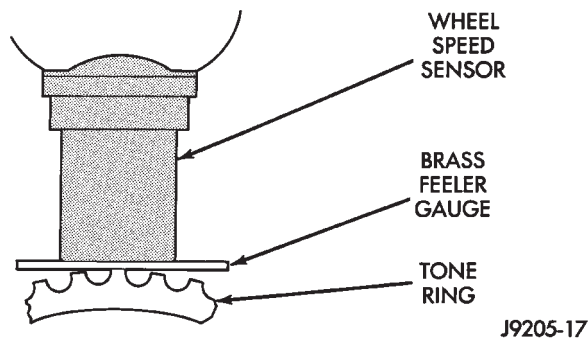

Fig. 6 Setting Air Gap On Original Rear Sensor
- (1) Insert sensor wire through support plate hole and seat sensor grommet in support plate.
- (2) Apply Mopar Lock N' Seal or Loctite 242 to original sensor bolt. Use new bolt if original is worn or damaged.
- (3) Install sensor bolt finger tight only at this time.
- (4) Set sensor air gap as follows:
- (a) If **original sensor** is being installed, remove any remaining pieces of cardboard spacer from sensor pickup face. Then adjust air gap to preferred setting of 1.1 mm (0.043 in.) with brass feeler gauge (Fig. 6). Tighten sensor bolt to 11 N·m (11 ft. lbs.) torque.